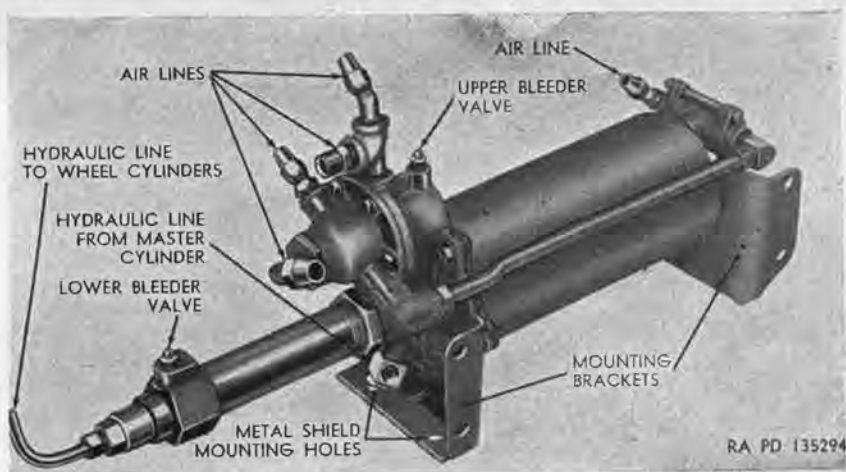

Figure 238. Air-hydraulic cylinder.
- (c) *Air-hydraulic cylinder (power brake unit).* The air-hydraulic cylinder (fig. 238), mounted directly below the master cylinder, consists of an air valve, air cylinder, hydraulic cylinder, and piston assembly. The piston assembly is comprised of the air-cylinder piston and hydraulic-cylinder piston mounted at opposite ends of a common piston rod. Pressure of the fluid forced from the master cylinder ((b) above) causes the air valve to open, thereby admitting air from the compressed air system (par. 231) into the air cylinder. This causes movement of both the air-cylinder piston and the hydraulic-cylinder piston, since they are mounted on the same shaft, which causes the hydraulic-cylinder piston to force fluid from the hydraulic cylinder through connecting lines to the wheel cylinders ((d) below).
- (4) Repeat (2) and (3) above until all air bubbles cease to appear or when fluid flows from bleeder tube in a solid stream.
- (5) Remove bleeder tube from bleeder valve, and check valve again to be sure that it is closed tightly. Perform bleeding operation at air-hydraulic cylinder (*c* below).
c. Bleeding Air-Hydraulic Cylinder (fig. 238). Perform bleeding operations at air-hydraulic cylinder (*b* above), bleeding upper bleeder valve first and lower bleeder valve last.